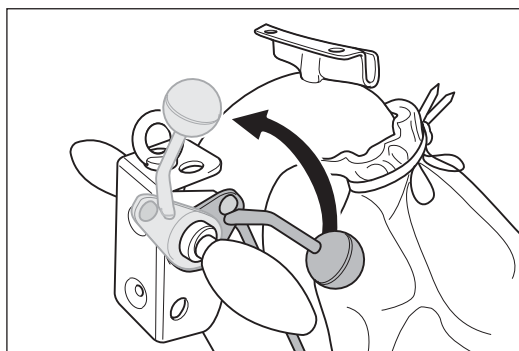

Fig. 19 Lift the sanding drum off the floor by turning the lowering lever at the handle upwards.
- **Always** lift the sanding drum off the floor before switch on the machine (fig. 19)!
- 1 Lift the sanding drum off the floor by turning the lowering lever at the handle upwards (fig. 19).
- 1 **Lift the sanding drum off the floor by turning the lowering lever at the handle upwards (fig. 19)!**